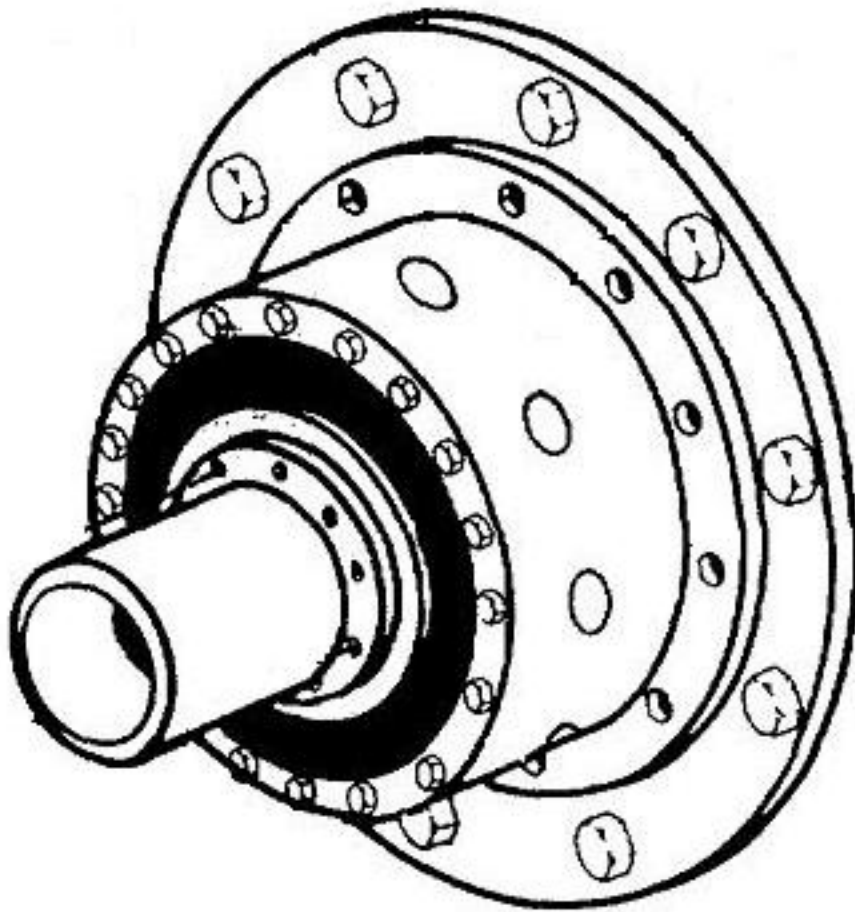

Figure 551-88L-2062_01
1. Conduct annual inspection of the Torsional Flex Coupling, (refer to Figure 551-88L-2062_01).